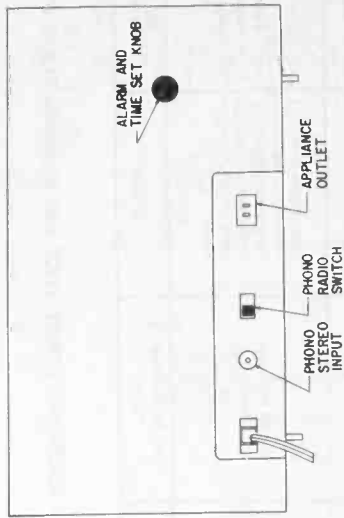

Figure 2
Your self-starting Telechron movement will begin operating when the set is plugged into the AC outlet. Check the clock by noting the rotation of the Sweep Second Hand. Set the clock to the correct time by means of the "Alarm and Time Set Knob" in the back of the cabinet. Gently pull this knob back - away from the cabinet - which engages the hands of the clock, enabling you to set the clock to the correct time. See Figure 2 on following page.
2. Set the Red Alarm Setting Hand to the time you want to be awakened. Gently move the "Alarm and Time Set Knob" forward to the front of the cabinet, which engages the Red Alarm Setting Hand, enabling you to set the alarm for the time you want to be awakened. See Figure 2.
An electrical appliance outlet is provided in the back of the receiver for connecting an electric lamp or an electrical appliance up to rating of 1100 Watts. This Appliance Outlet is shown in Figure 2.